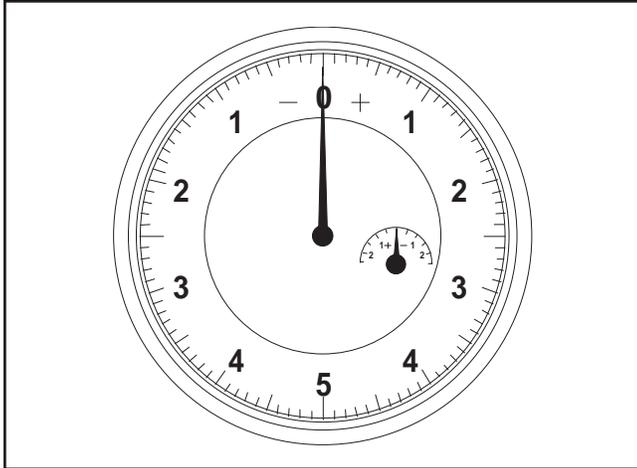

Figure 2. Pin Depth Gauge
- a. ***Beware of Destructive Pin Depth on Mating Connectors.*** Measure the pin depth of the connector that mates with the RF component, *before* mating. Use an ANRITSU Pin Depth Gauge (Figure 2) or equivalent. Based on RF compo-